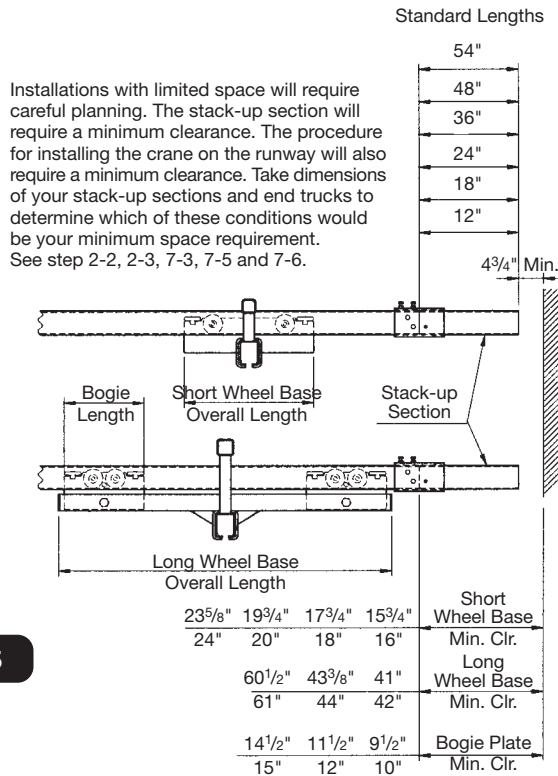

FIGURE 5
2. See *Figure 5* for minimum access clearance required for crane installation and/or removal. Applications with very limited space will need to utilize a long wheel base end truck (20 ETLs, 10 ETLs, 05 ETLs OR 02 ETLs). These end trucks can be assembled with the runway track in place.
3. If your system is powered (electric or air), determine which runway track will carry the power supply. Runways using festooning (for electric or air power) are usually furnished with a stack-up section that mounts on one end of one runway. Determine placement of the stack-up section and allow space to accommodate this. See *Figure 5* for minimum space required. The stack-up section can be installed after the crane. Either the stack-up section or the crane installation will determine the minimum clearance required at one end of the runway.